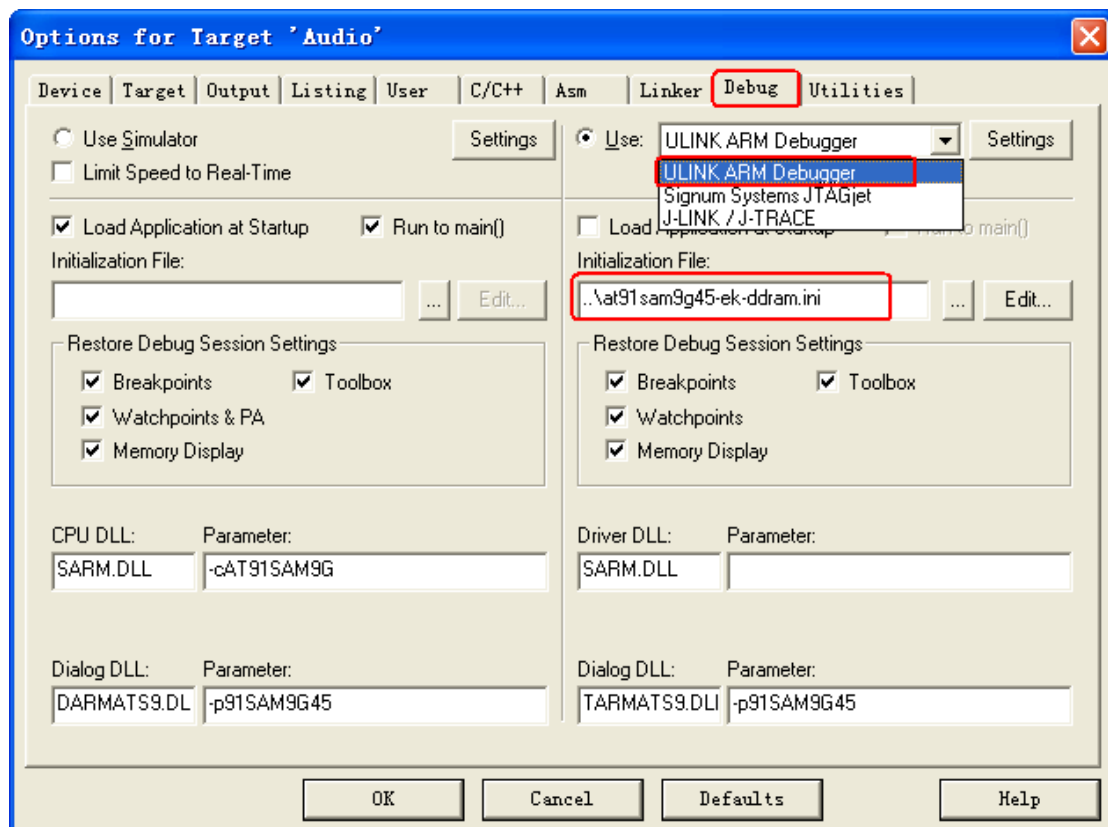

Figure 3-7
(2) After opening “Option for Target ‘Audio’” then choose “Debug” tab, and select initialization script. Refer to figure 3-7: